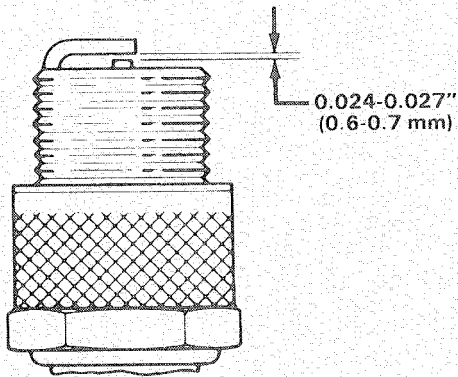

Figure 18
4. Set air gap between center and side of electrodes at 0.024–0.027 of an inch (0.6–0.7 mm) (Fig. 18). Install correctly gapped spark plug w/gasket seal, and tighten plug to 18 ft–lb (24.4 Nm). If torque wrench is not used, tighten plug firmly.